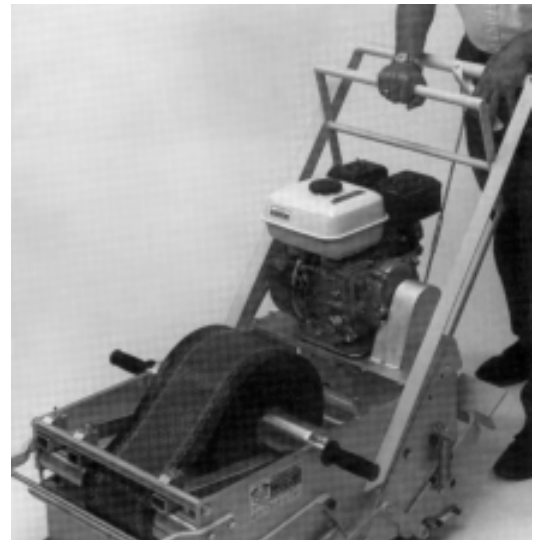

Figure 3
3. To start application, position the right hand in the center of the clamp handle when moving the handle forward to aid in keeping the applicator moving in a straight line when starting tape application (See Figure 3). Slowly move the clamp handle forward while squeezing the clutch lever to move the applicator forward at about the same speed. After tape application has begun, immediately release the clamp handle to allow the tape to move freely. As the tape applicator is moved forward, start the pavement marking each time the pointer passes over "A," and cut the pavement marking each time the pointer passes over "B."